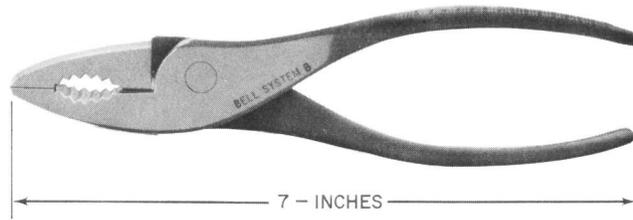

Fig. 7—AT-8420 B—Combination Pliers
2.07 AT-8420 B: The AT-8420 B tools are combination pliers (Fig. 7) for general use. These tools replace combination pliers AT-7582-X.